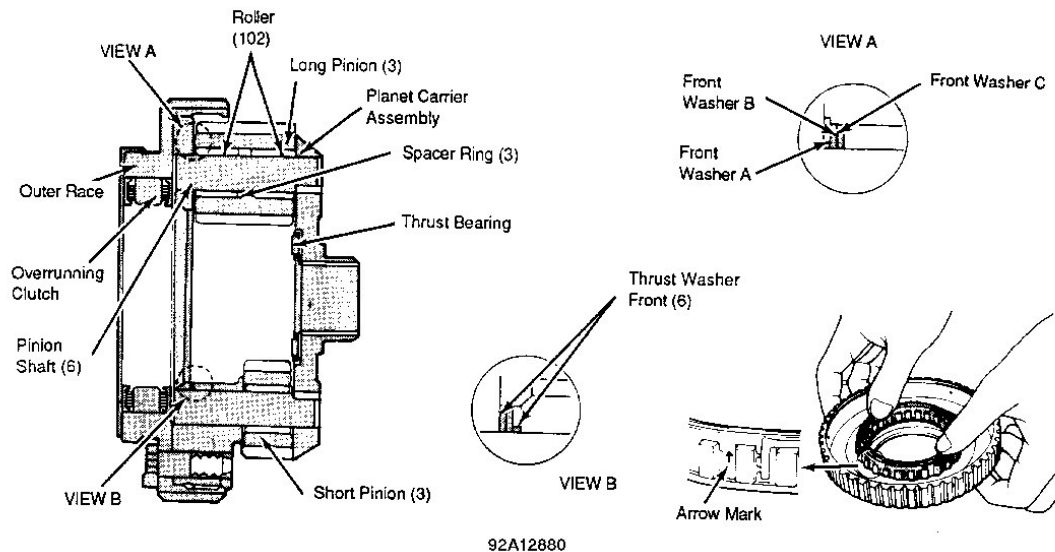

Fig. 28: Cross-Sectional View of Planetary Gear Set
2. Align holes in front and rear thrusts with shaft hole of carrier. Install short pinion, spacer bushing and 2 front thrust washers and align holes. Insert pinion shaft. Install end plate in overrunning clutch outer race. Push overrunning clutch in outer race. Ensure proper installation direction. See **Fig. 28**.